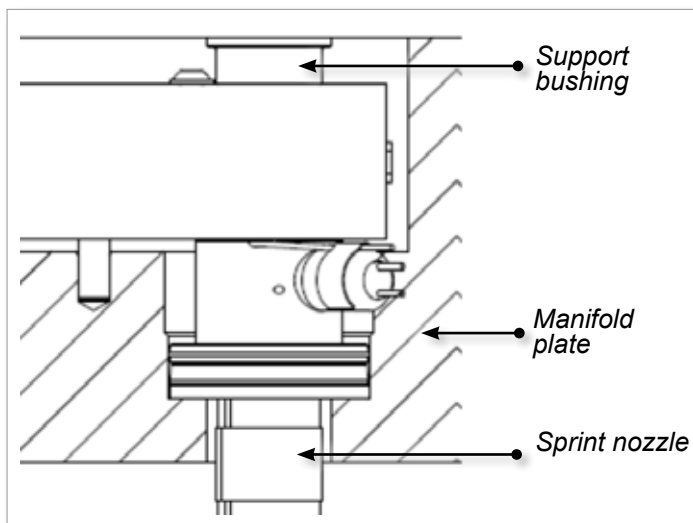

Figure 5-17 Location of support bushing
3. Use a dowel pin to install all of the support bushings into the manifold. See Figure 5-17.